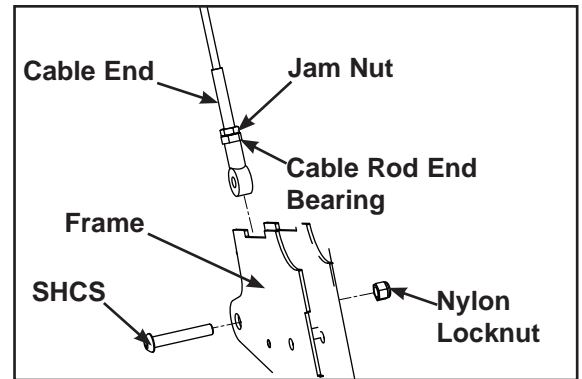

Figure 7
2. **Rod End Adjustment** - This type of adjustment contains a socket head cap screw (SHCS) securing a cable rod end bearing to the machine. Primary adjustment is by turning the rod end bearing. The other end of the cable usually contains a roll pin cable adjustment. See Figures 7 and 8.